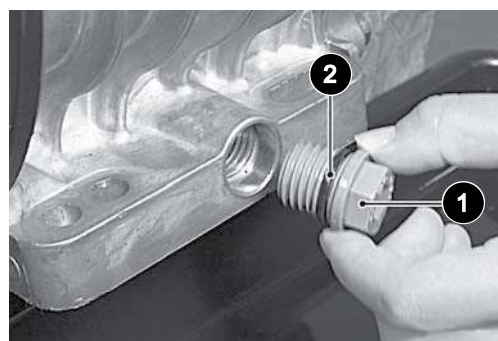

Figure 5 Oil Drain Plug
Place the oil drain pan under the oil drain plug (1) (Figure 5) found at the rear of the engine base. Remove the drain plug (1). Allow the oil to drain into the drain pan.
Before installing the drain plug (1), clean the area around the drain plug mount with a lint free cloth. Inspect the drain plug (1) for damage; replace if necessary (Figure 5). If the O-ring (2) on the drain plug is damaged, replace it with a new one. Tighten the drain plug (1) to the torque value specified below.